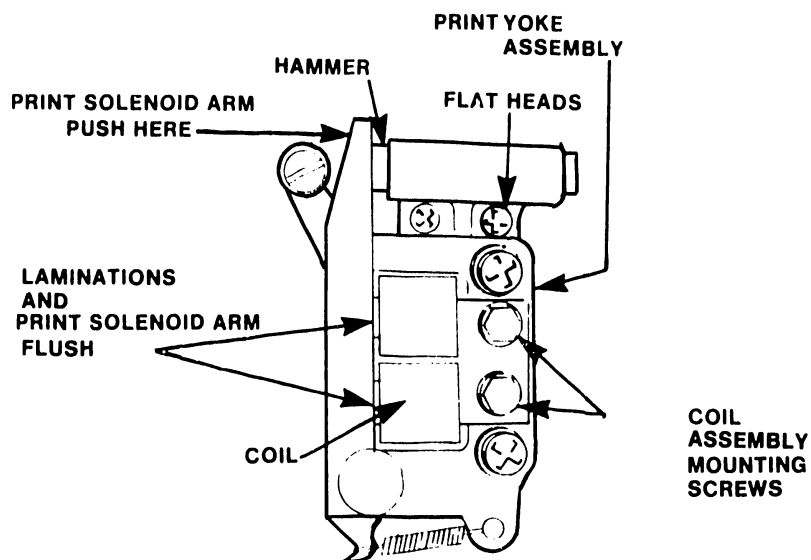

FIGURE 5-13 PRINT SOLENOID ARM AND LAMINATION ADJ.
3. Inspect the alignment of the print solenoid arm with respect to the face of the coil laminations; be sure that both surfaces are touching and parallel (see Figure 5-13). If alignment is incorrect, adjust as follows.
1. To adjust the print solenoid arm with respect to the face of the lamination, loosen coil assembly mounting screws (Figure 5-13).